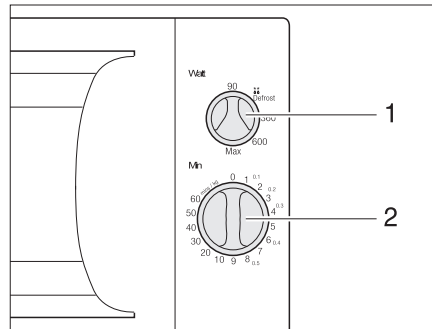

Fig. 141 Operating control for the microwave oven
- Select the output on the control knob (Bild 141,1).
- Select the cooking time with the control knob (Bild 141,2). Cooking begins.